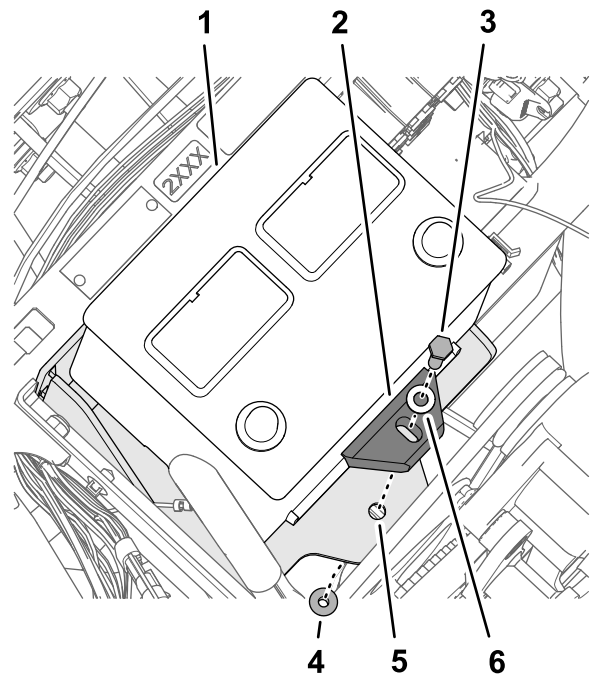

Figure 175
5. Assemble the battery to the battery bracket with the bolt (5/16 x 1-3/4 inches), washer (5/16 inch), battery retainer, and flange locknut (5/16 inch) as shown in Figure 175.